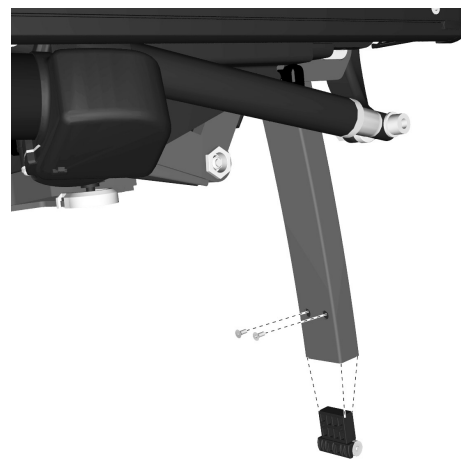

Figure 139. The slide bushing in the upper section of the leg rest is attached using two screws.
2. Fit the slide bushing in the upper section of the leg rest using the two screws. See fig. 139.